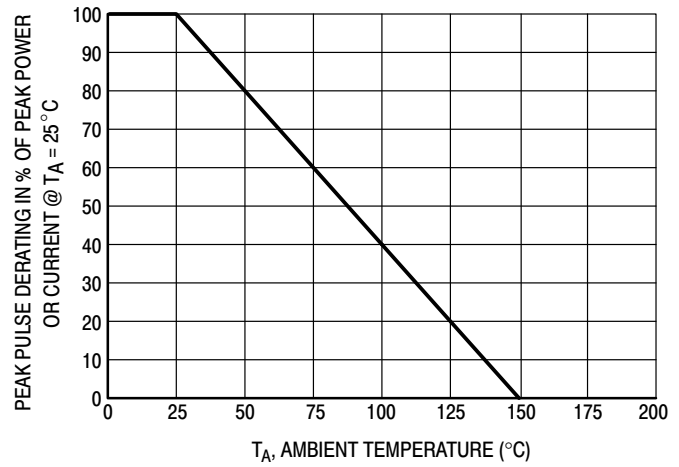
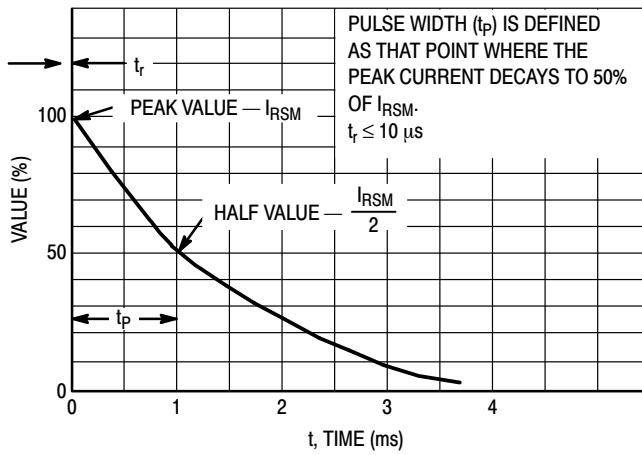
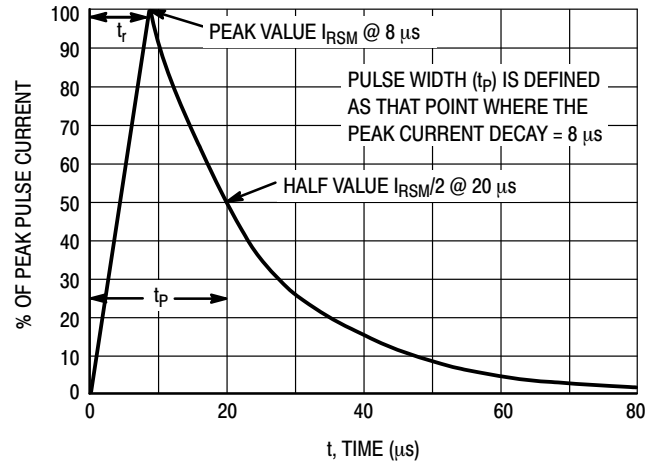

Figure 4. Pulse Derating Curve
Figure 5. $10 \times 1000 \mu s$ Pulse Waveform
Figure 6. $8 \times 20 \mu s$ Pulse Waveform
- Peak Power – Min. 24 W @ 1.0 ms (Unidirectional), per Figure 5 Waveform
- Peak Power – Min. 150 W @ 20 μ s (Unidirectional), per Figure 6 Waveform
1. Non-repetitive current pulse per Figure 5 and derate above $T_A = 25^\circ\text{C}$ per Figure 4.
2. Non-repetitive current pulse per Figure 6 and derate above $T_A = 25^\circ\text{C}$ per Figure 4.
6. Surge current waveform per Figure 5 and derate per Figure 4.